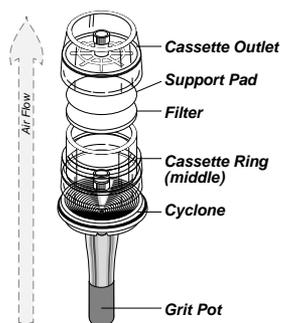

Figure 1
2. Select a filter and support pad as specified in the sampling method. It is not necessary to weigh the filter for calibration. For sample collection, weigh the filter (not the filter cassette) and record the weight as the pre-sample weight. Place the support pad into the cassette outlet and place the filter on top of the support pad (see Figure 1). Insert the cassette ring (middle) section into the cassette outlet (see Figure 1).
4. Following the instructions in the pump and calibrator manuals, calibrate the required flow rate. Figure 1 - Constant Pressure Controller